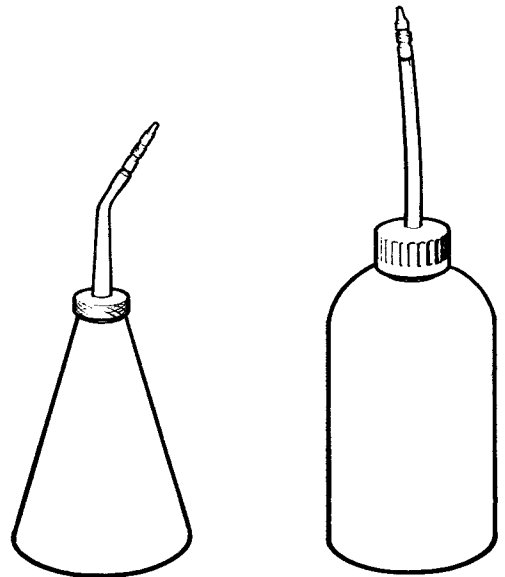

Fig. 35 Oil cans
43. **Oil cans.** Oil cans (Fig. 35) are a convenient method of applying oil to the point required without spillage. They should be clearly labelled to show the type of oil they contain.